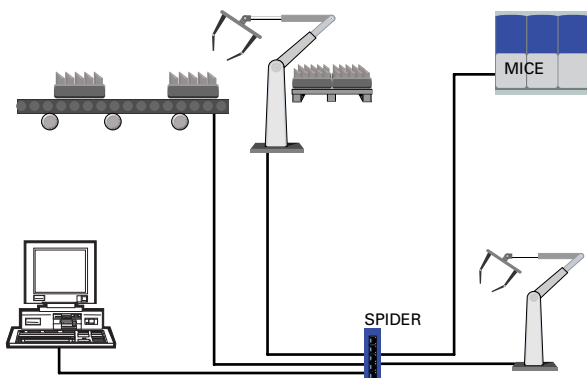

Fig. 4: Configuration with SPIDER: Connection of (depending on product type):
- SPIDER 4TX/1FX... up to four data terminal equipments (DTE) or other network segments to the 10/100 Mbit/s ports using twisted pair cabling (ref. Fig. 4).